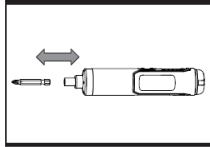

Fig.B1
B) INSTALLING AND REMOVING THE BIT (SEE FIG. B1, B2)